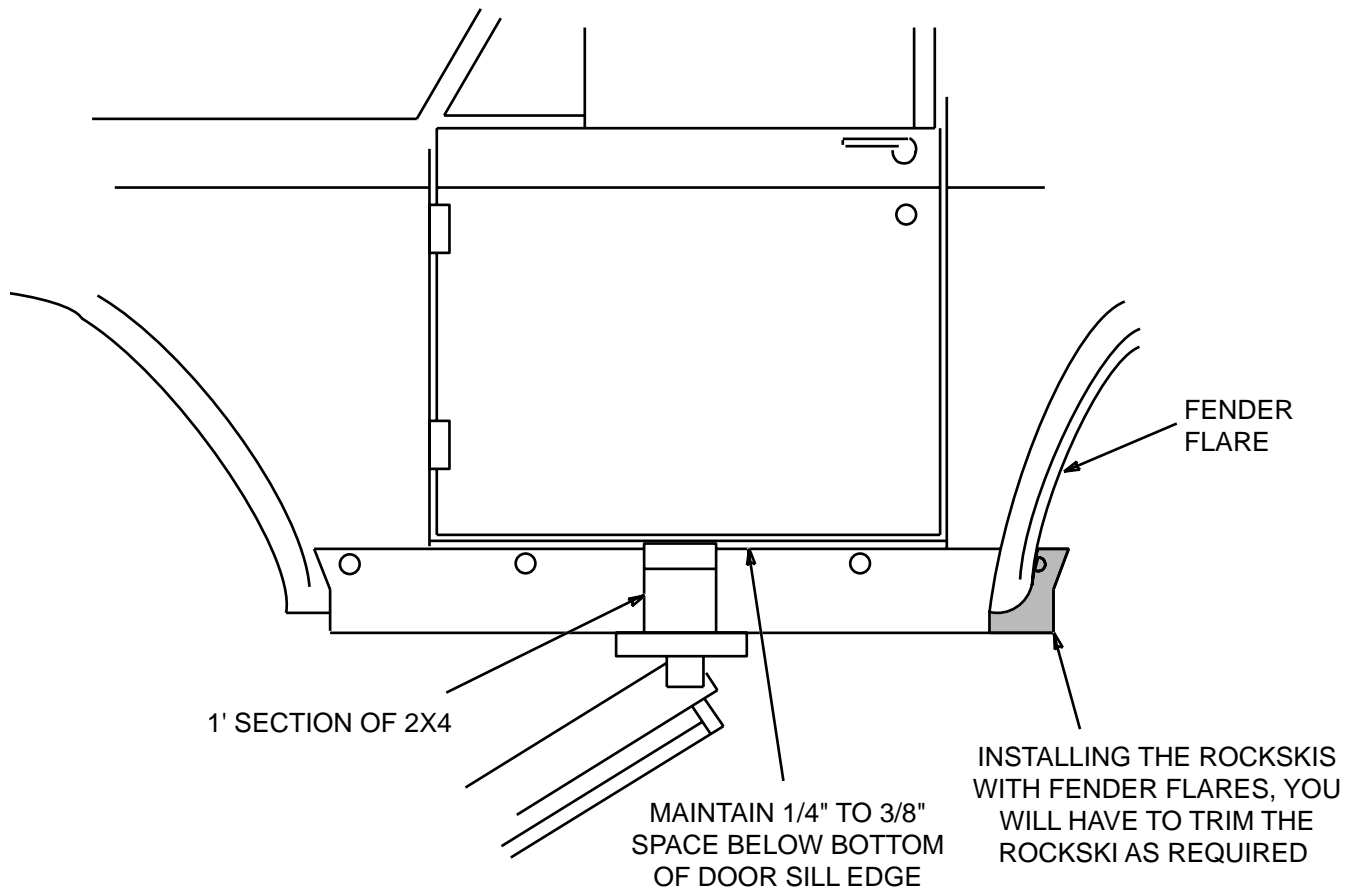

Figure 4
4. Using the 5/16" drill bit, mark (DO NOT drill thru!) the centers of each of the five holes. Drill the front and rear holes only using the 5/16" drill. Install one 1/4"x20x3/4" truss head screws at each end with a large fender washer and nut on the back side. See Figure 4.
NOTE: If there is bondo the area of the center three mounting holes, pre-drill these holes with the 1/8" drill bit, and carefully enlarge them using the awl. See Figure 4.
3. Mark the amount of the RockSki that needs to be trimmed. Lower RockSki and trim as necessary. Re-drill the end mounting holes positioning them the same as on the trimmed section. See Figure 4.